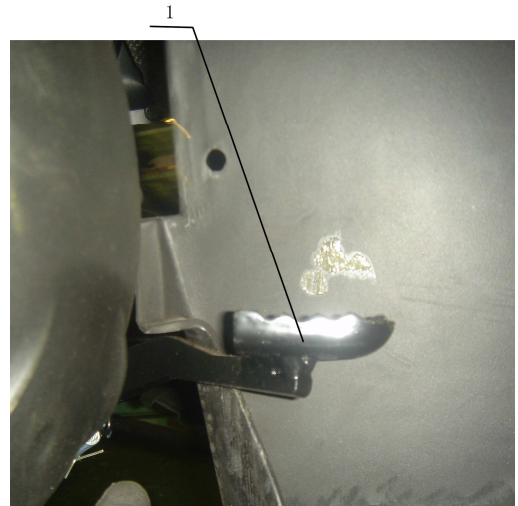

Figure 4-2-10
- d) Travel distance of the Rear Brake Pedal should be kept between 20mm-30mm. Otherwise, please adjust the screw to meet required travel distance. ( Figure 4-2-10)